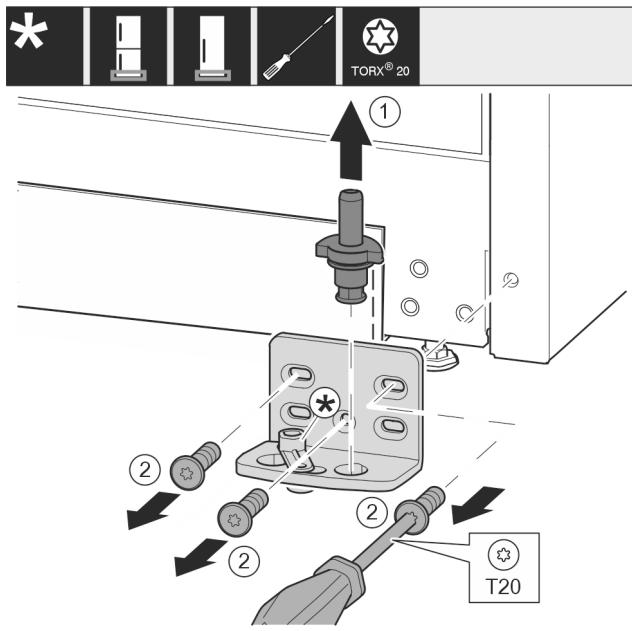

Fig. 12
- ▶ Pull the bearing bolt Fig. 12 (1) out upwards completely.
- ▶ Use screwdriver to unscrew the screws Fig. 12 (2) and remove the swap bearing block.